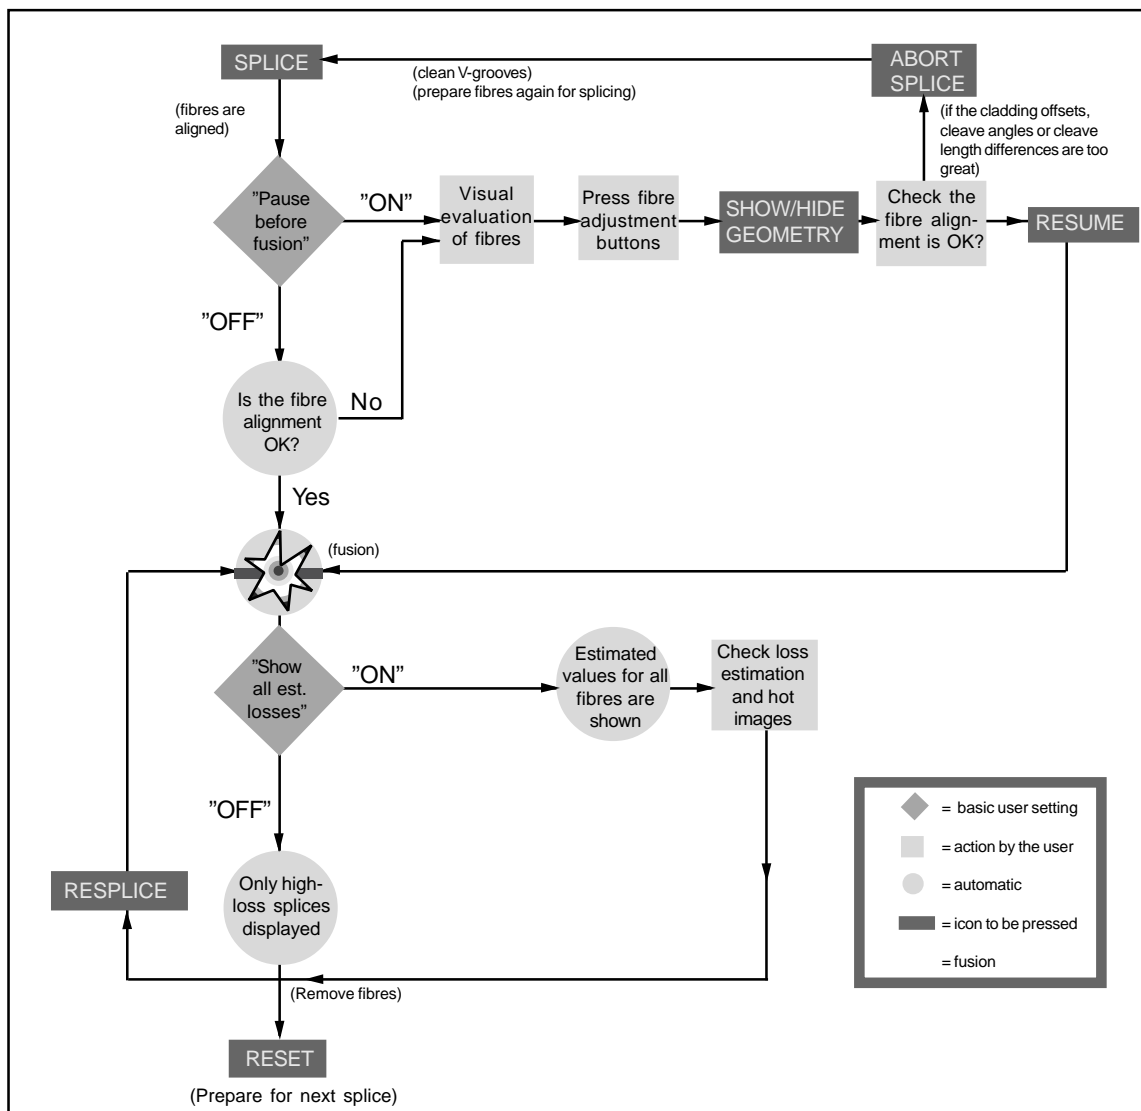

Fig. 25 - Schematic of the auto splicing process
2. Press SPLICE (now refer to fig. 25).